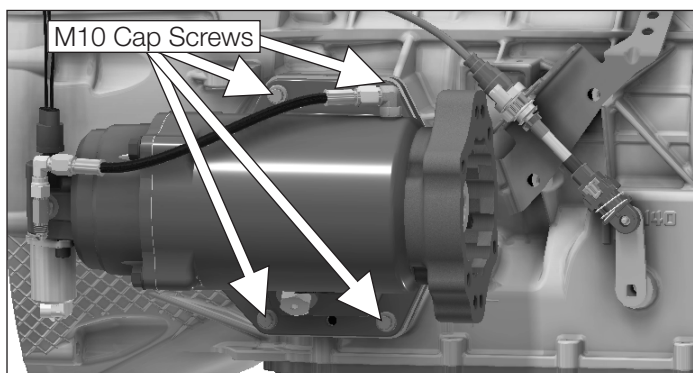

Figure 38
(2) 3/8" flange nuts, torque to 35-40 lb-ft [47-54 N-m] (**Fig. 38**).